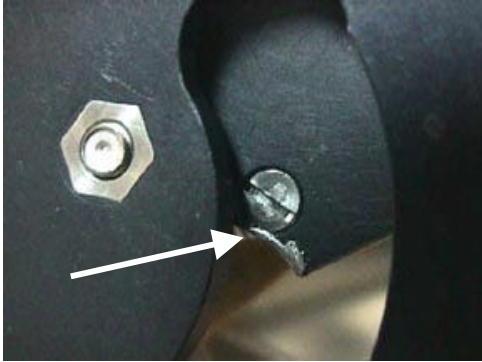

Fig. 1
- ∑ Locate problem area and look for signs of excessive wear. (See Fig. 1)